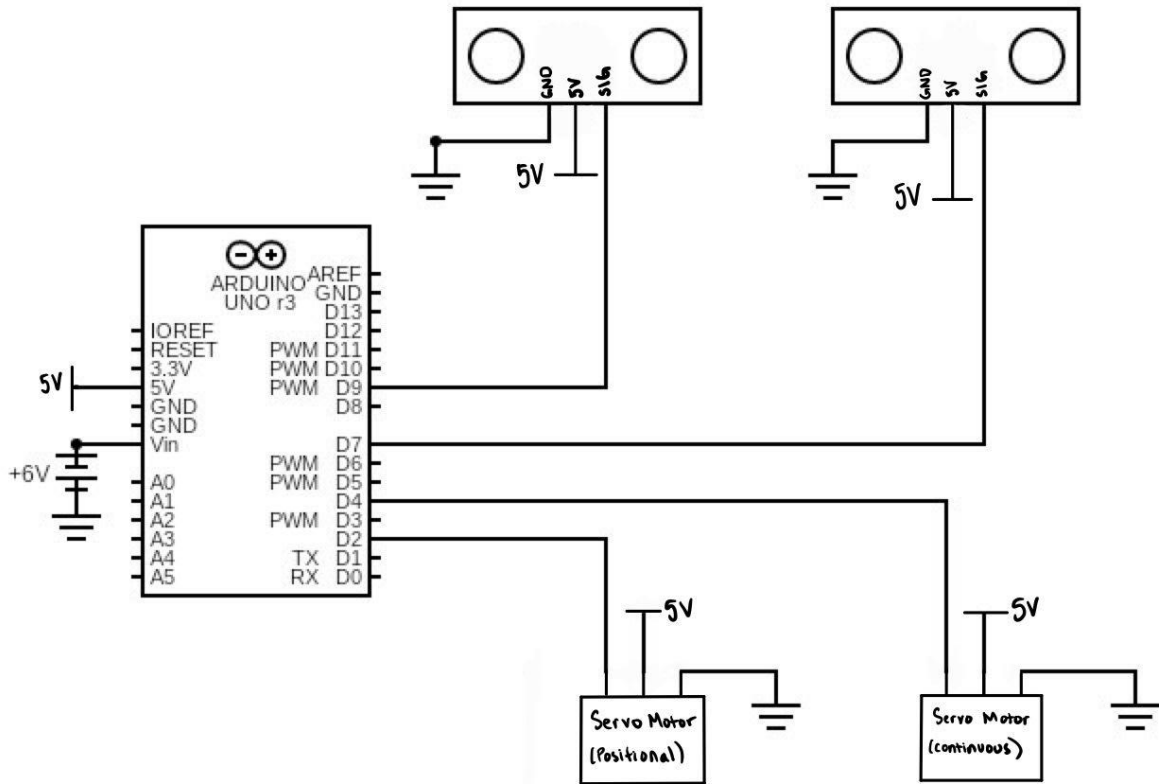
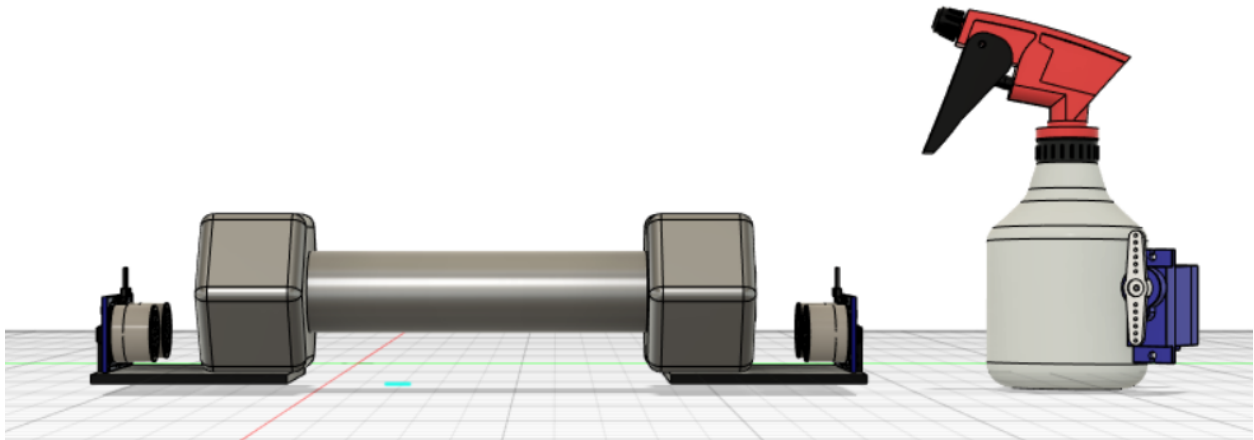

Figure B.1: Circuit Diagram
Figure C.8: Final assembly of the mechanical structure
1. Construct the circuit based on the circuit diagram in Figure B.1
8. Your final product should look similar to Figure C.8 just missing the circuit and the rope
Once the “Power Cleaner” is fully assembled as seen in Figure C.8, first take off the dumbbell to prevent any unwanted activations by your circuit. All you have to do is download the code from Appendix D to the Arduino board and power the circuit using a 4-AA battery pack or an equivalent voltage battery hooked up to the Arduino V_{in} and ground connections as seen in Figure B.1. You can then place the dumbbell on top of the two 3D printed stands and the ultrasonic distance sensors will automatically detect the dumbbell and wait 3 seconds before rotating backward, giving time to the user to remove their hand. It will then release the spray and wait 10 seconds before returning to its original position. In these 10 seconds, you will need to remove the dumbbell or remove the battery from the Arduino so that the circuit does not run in an infinite loop thus draining the battery.